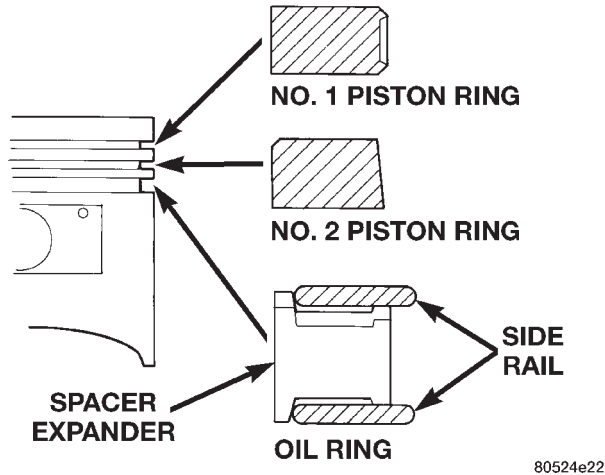

Fig. 93 Piston Ring Installation
(1) Install rings with manufacturers I.D. mark facing up, to the top of the piston (Fig. 93).
- (2) Install upper side rail first and then the lower side rail.
- (3) Install No. 2 piston ring and then No. 1 piston ring (Fig. 93).